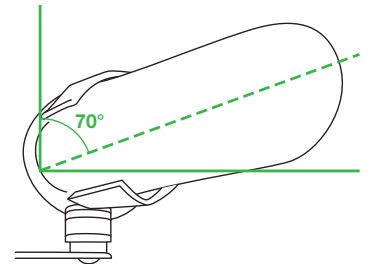
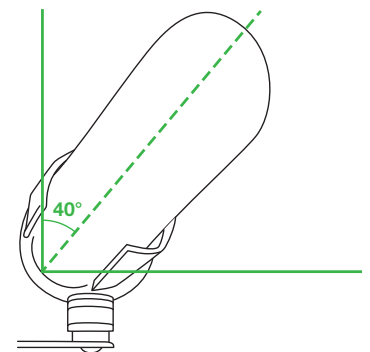

Figure 2: Affected side(s) should be set at 70° of external rotation
Figure 3: Non affected side should be set at 40° of external rotation
2. The AFOs are riveted to the EZ-Crawl disconnect attachment pin by placing the included #8 rivets. The attachment is placed above the proximal border of the malleolus to avoid any impingement. The involved foot or feet should be positioned with 70° of external rotation (see fig. 2) and an uninvolved foot should be positioned with 40° of external rotation (see fig. 3). A tracing can be used on a work surface to achieve proper foot positioning. Mark and verify foot position before attaching the AFO sections.